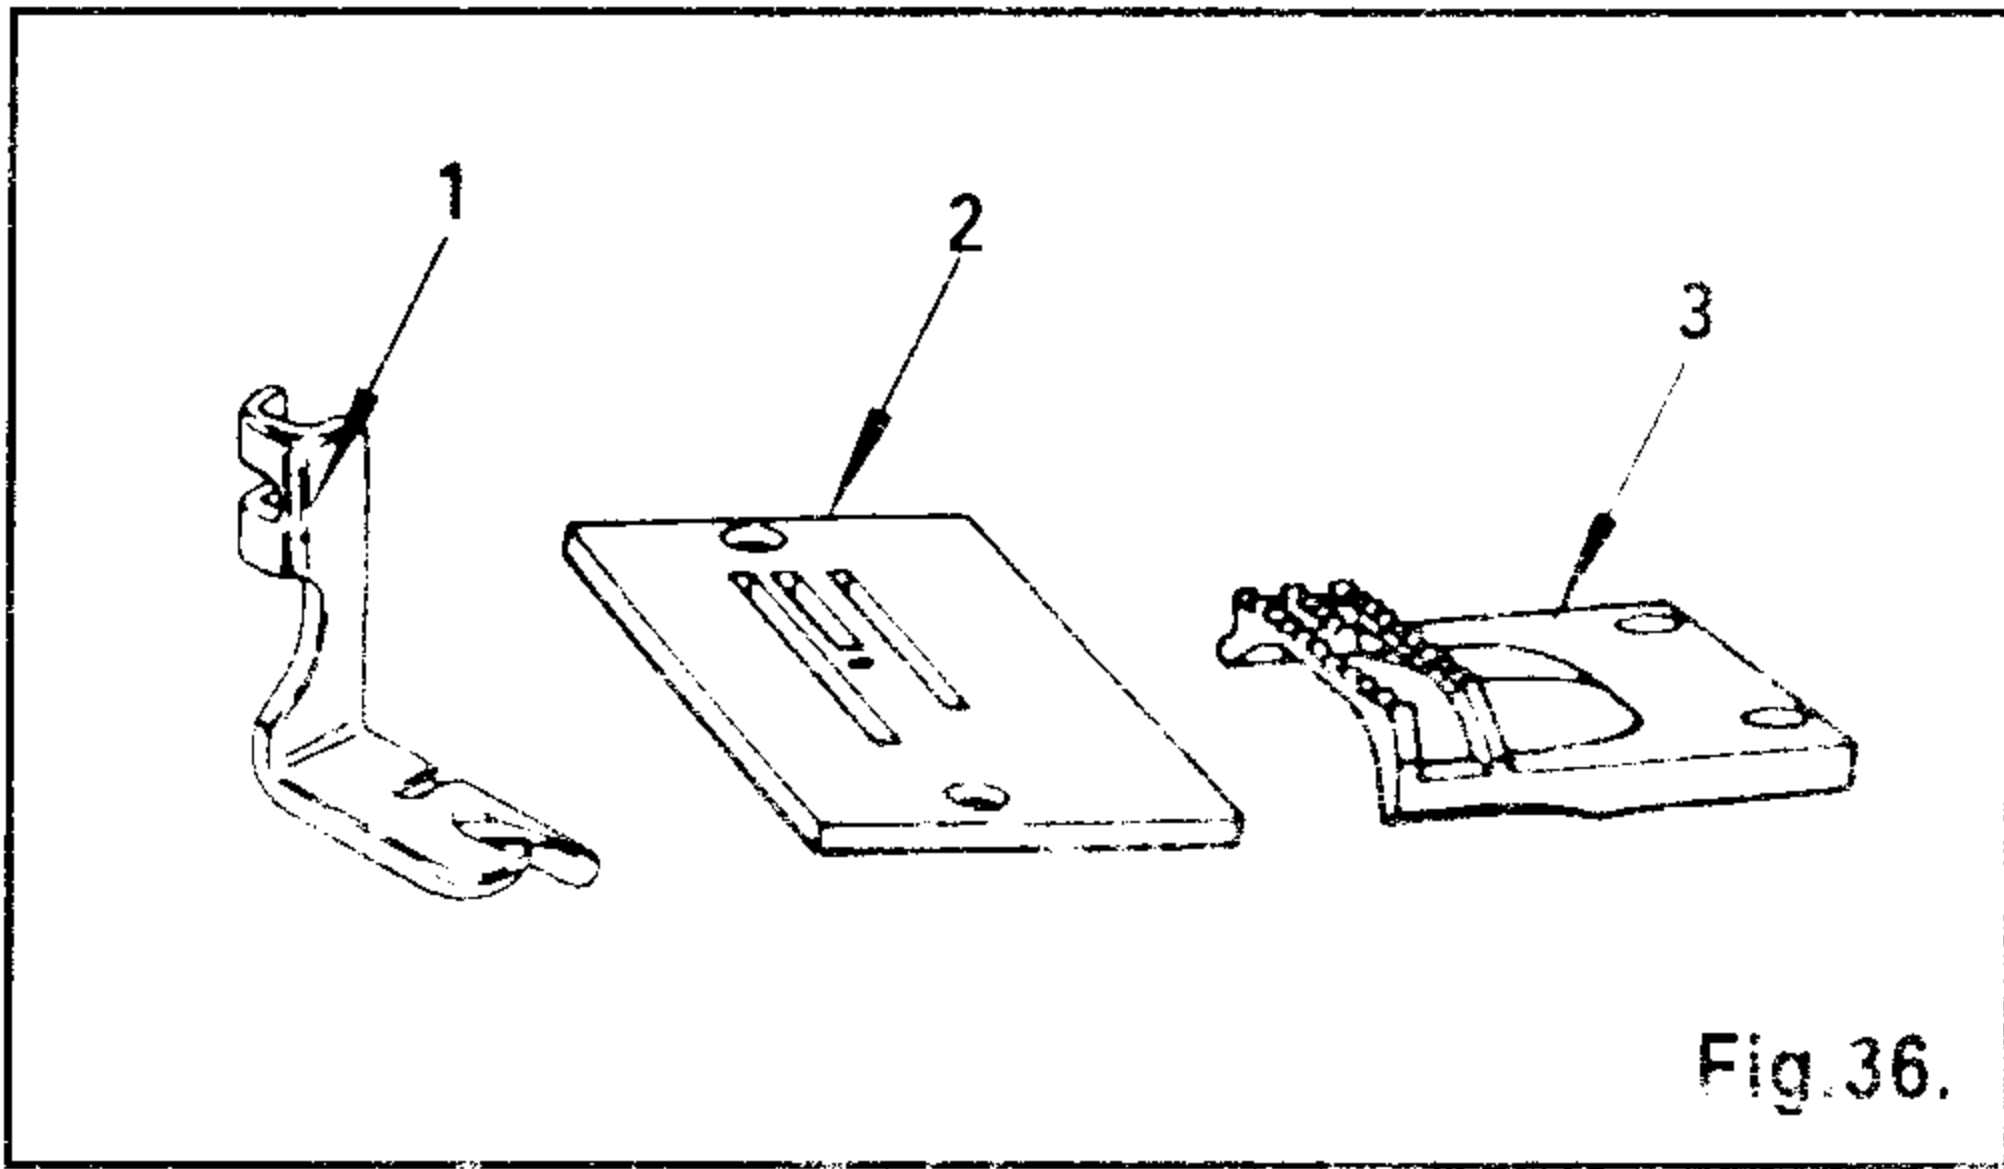

Fig.36.
Hemmer Foot(1), Straight Stitch Throat Plate (2) and Feed Dog (3) as shown in Fig.36 are used for hem sewing.